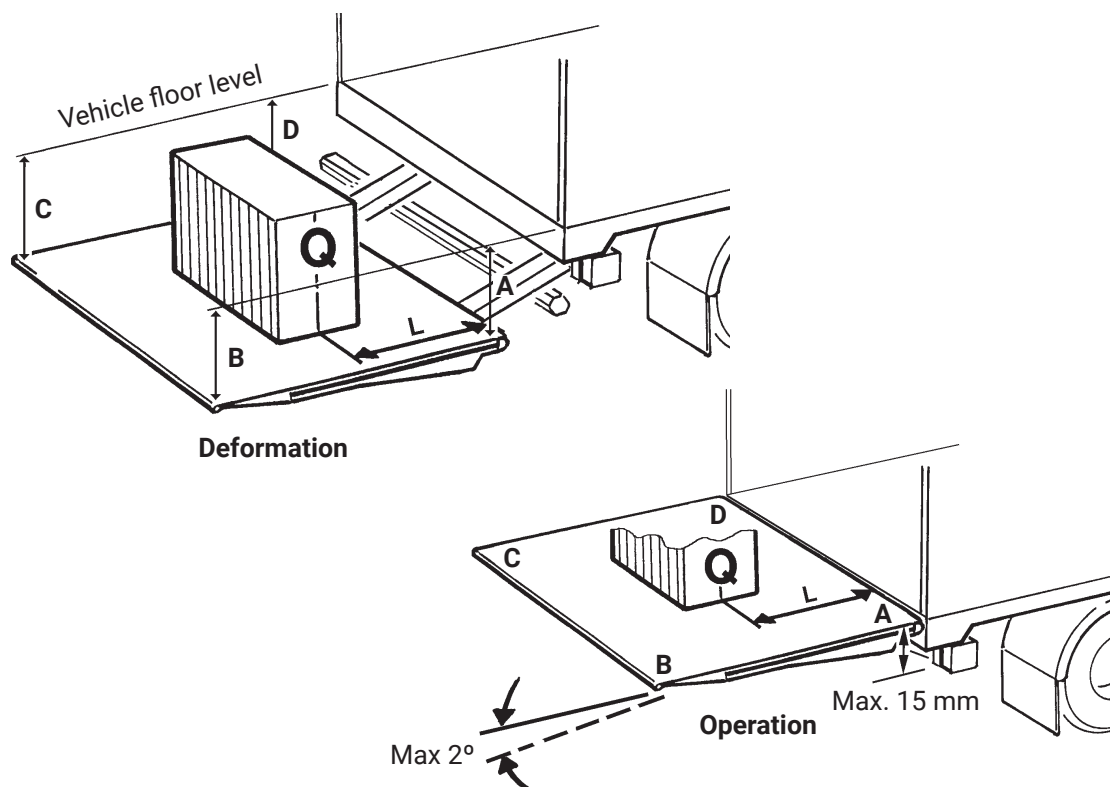

Figure 79. Testing and verification
- Position the tail lift half way to vehicle floor level and with the platform horizontal. Measure dimensions A-B-C-D for comparison as illustrated, see Figure 79.